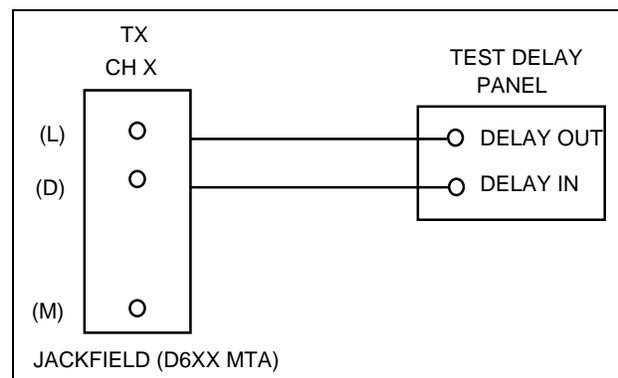

Figure 5. Test Setup, 300 Hz Polarity Check
- Connect the test delay in series with the Tx modem audio going to the site under test on the control channel as shown in Figure 5.